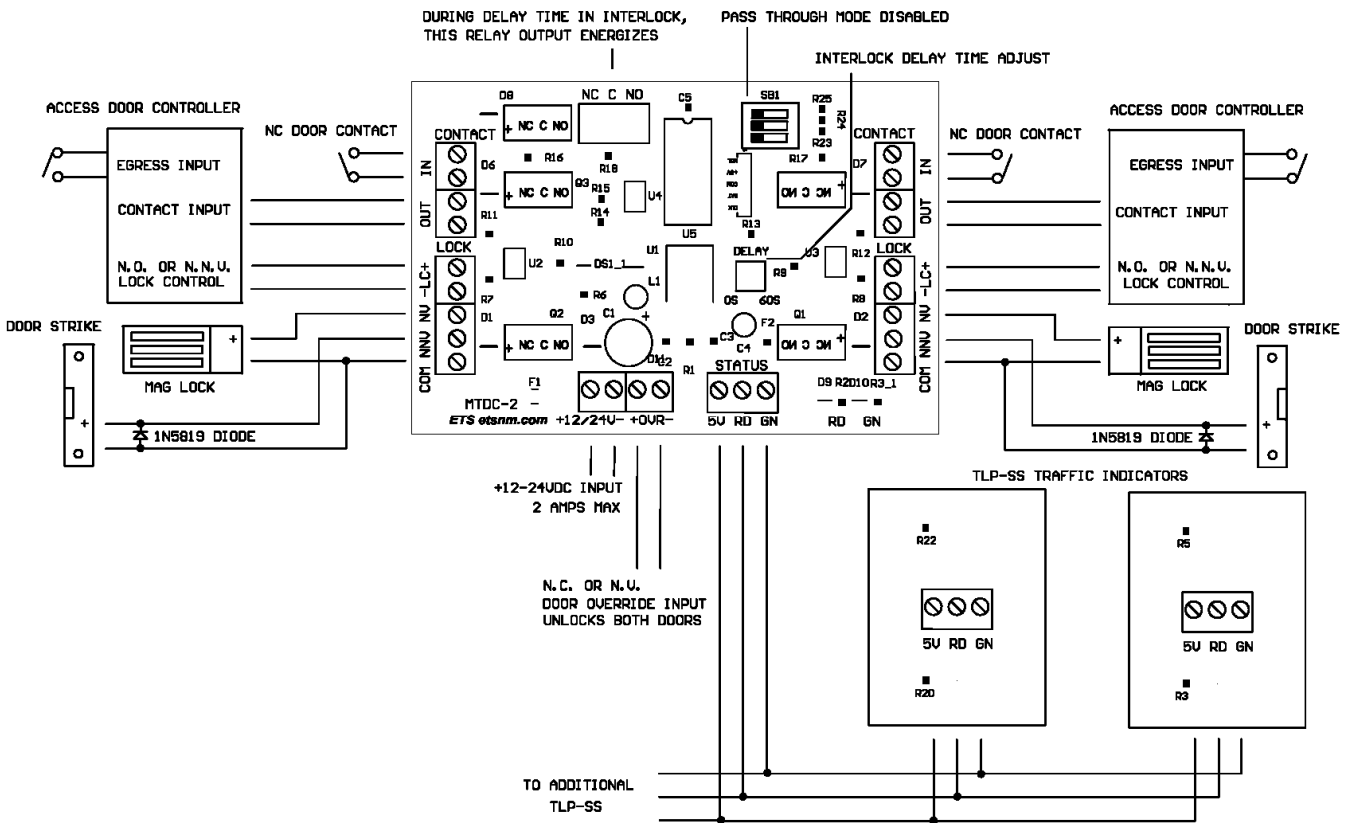
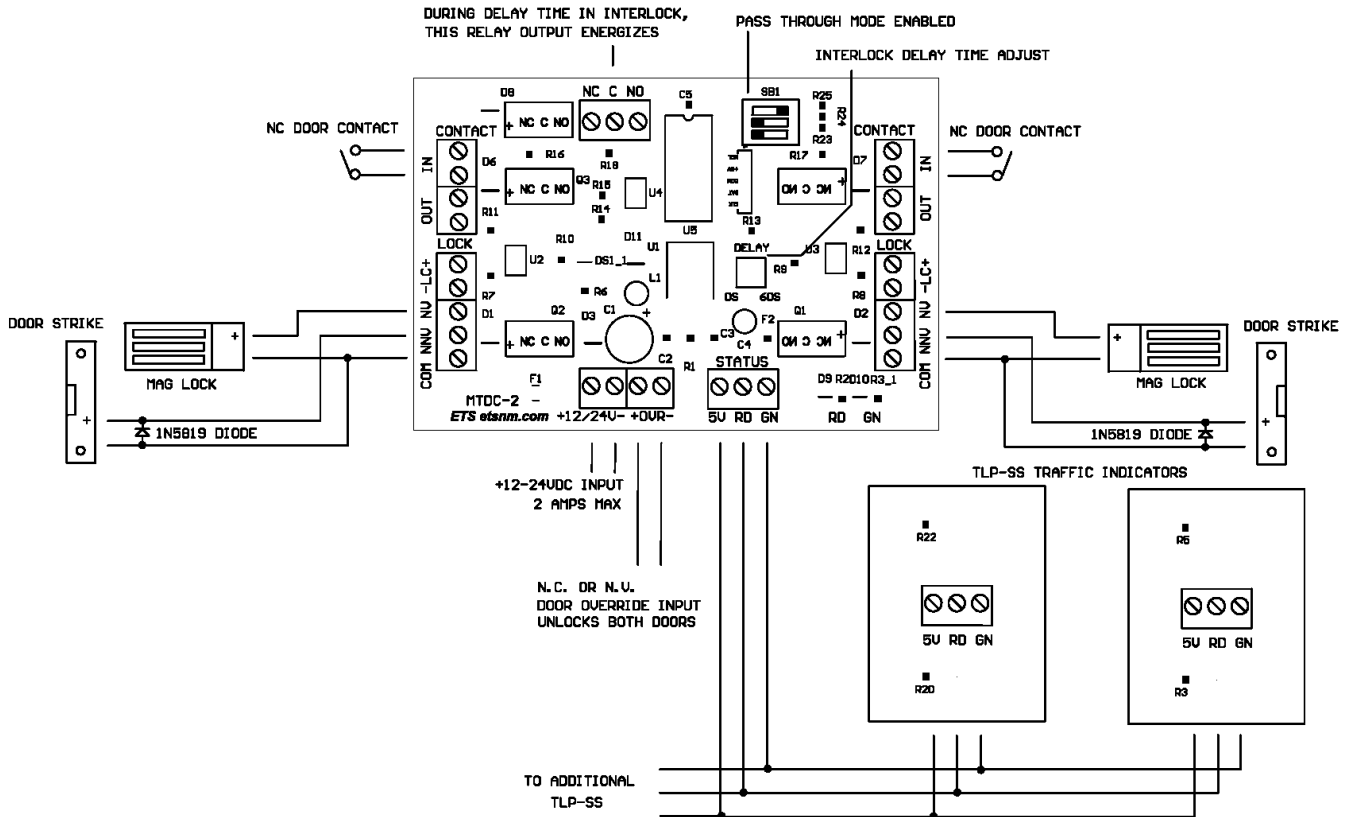

Figure 1 Access control mode.
Figure 2 Pass through mode
The MTDC-2 accepts 12-24Vdc at 2 amps maximum. The input power is also routed to the lock control outputs. The lock control outputs are auto-reset fused in the event a lock fails-shortened. See figure 1.
The MTDC-2 OVR input accepts a 5-24vdc input Voltage or a NC dry relay contact input. The factory default is for a NC input. See Figure 2 for jumper settings to set the board to accept a Voltage input. This input overrides all interlock functions and opens both doors immediately. If traffic lights are connected to the MTDC-2, the red and green LEDs will flash back and forth at .5 Hz. Once the override is removed the system resumes normal operation. See figure 1.
The MTDC-2 allows the connection of up to 4 TLP-SS traffic light indicators to prompt persons using the interlock system for "GO" and "STOP" situations. Below is a table of the various LED indications. See figure 1.
This output changes state when the interlock timer is activated and the contacts are rated for 2 Amps. If the interlock timer delay control is set to 0, this output changes state for 1 second. See figure 1.
This control allows for a delay between when the first door opens and when the second door is permitted to be opened. During the adjustable delay of 0-60 seconds, The NC C NO output will change state. This output can be used to trigger decontamination fans or other equipment. If the delay time is set to 0, the delay timer does not function. During the interlock time interval, the red LED output will flash at a rate of 1/2Hz. See figure 1.
A NC (normally closed) door contact must be connected to these inputs for both doors in order for the MTDC-2 to function. See figure 1.
This is a normally closed output that follows the state of the door contact input (IN). It is provided to report door status to the connected access control reader to indicate forced door, door propped or auto-lock on door opened conditions. See figure 1.
The locks are connected directly to these outputs. These outputs can supply up to 1 Amp at 12-24Vdc. NNV stands for Normally No Voltage and NV stands for Normally Voltage. See figure 1.
NOTE- Be sure to install transient protection diodes (such as type 1N5819) when using door strikes. Maglocks can be directly connected to the board. See figure 1.
Set switch 1 to ON position to select this mode. In pass through mode, both doors always remain unlocked and the traffic light is green when both doors are closed. When door 1 contact opens, door 2 locks and the traffic light turns red. When both doors are closed again, the locks unlock and the traffic light is green. When door 2 is open, door 1 locks and he traffic lights behave as previously described. The Lock control inputs do not function in this mode. If the override input is energized, both doors remain open no matter what. See figure 2.